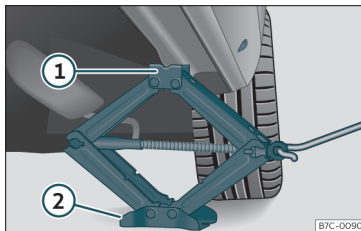

Fig. 63 Crossbar: mounting the jack on the vehicle.
- Turn the jack* crank handle, located below the strut support point, to raise it until the tab ① »» Fig. 63 is below the housing provided.
- Align the jack* so that tab ① “grips” onto the housing provided on the strut and the mobile base ② is resting on the ground. The base plate ② should fall vertically with respect to the support point ①.